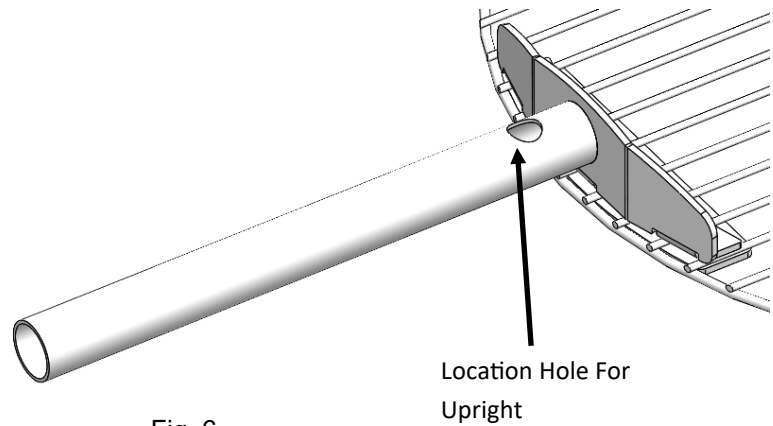
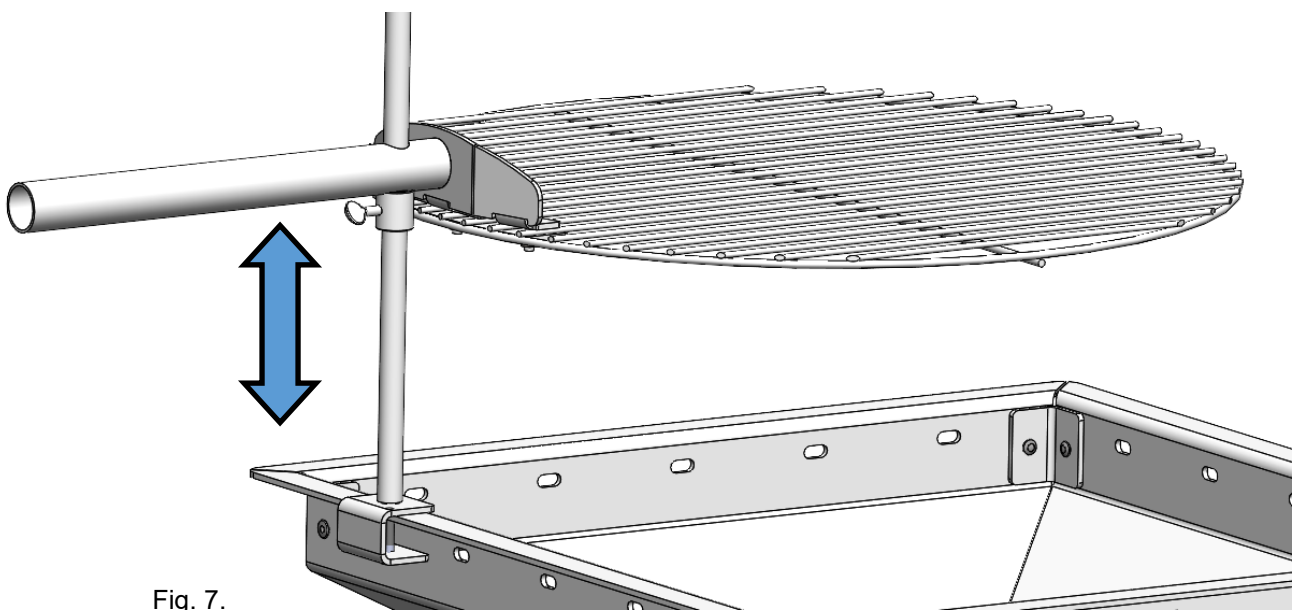

Fig. 6.
Fig. 7.
Step 5 : Place the grill sub assembly onto the upright via the hole located at the front of the handle tube. See Fig. 6. Rest the grill onto the secured collet. See Fig. 7.